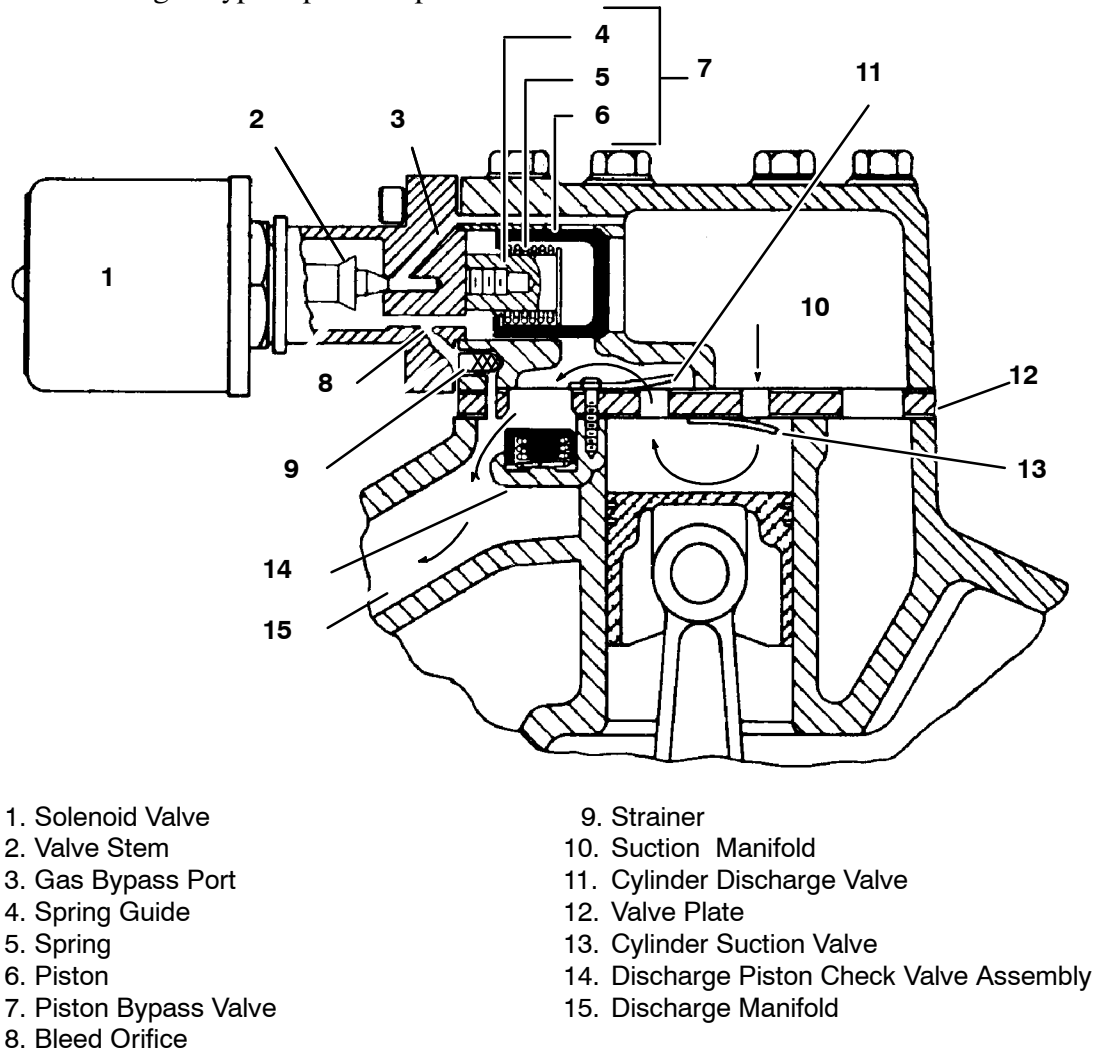

Figure 7-11. Compressor Cylinder Head Loaded
Discharge pressure bleeds from the discharge manifold (Figure 7-11, item 15) through the strainer (9) and (8) bleed orifice to the solenoid valve stem (2) chamber and the back of the piston bypass valve (7).